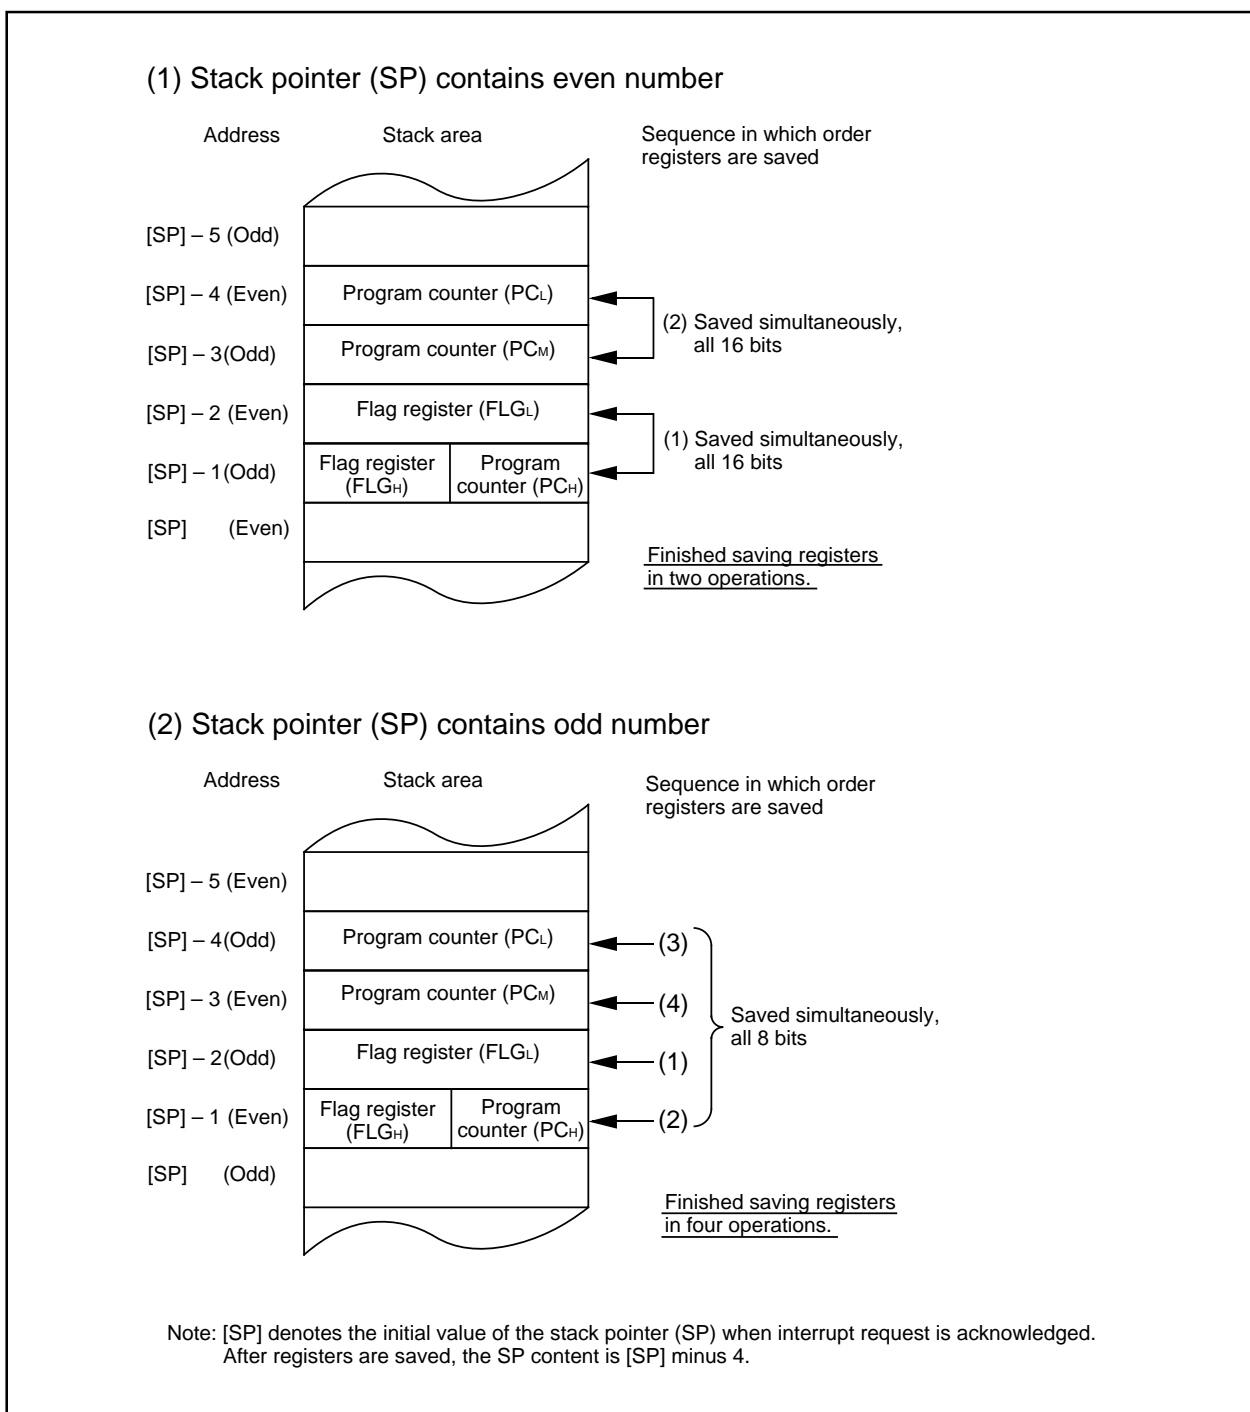

Figure 1.11.7. Operation of saving registers
The operation of saving registers carried out in the interrupt sequence is dependent on whether the content of the stack pointer (Note) , at the time of acceptance of an interrupt request, is even or odd. If the content of the stack pointer (Note) is even, the content of the flag register (FLG) and the content of the program counter (PC) are saved, 16 bits at a time. If odd, their contents are saved in two steps, 8 bits at a time. Figure 1.11.7 shows the operation of the saving registers.